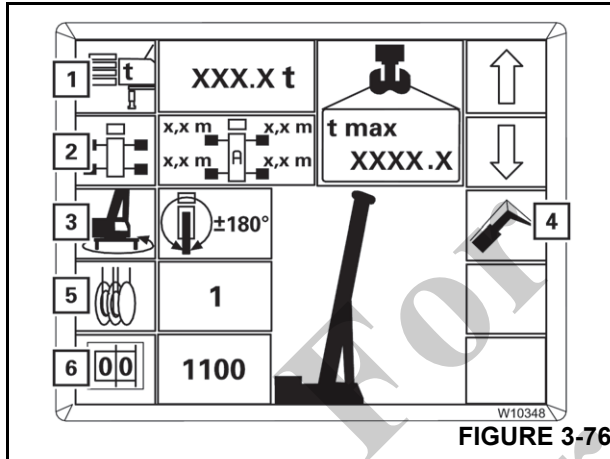

FIGURE 3-76
- Either enter the individual components (1) to (5) (Figure 3-76) one after the other